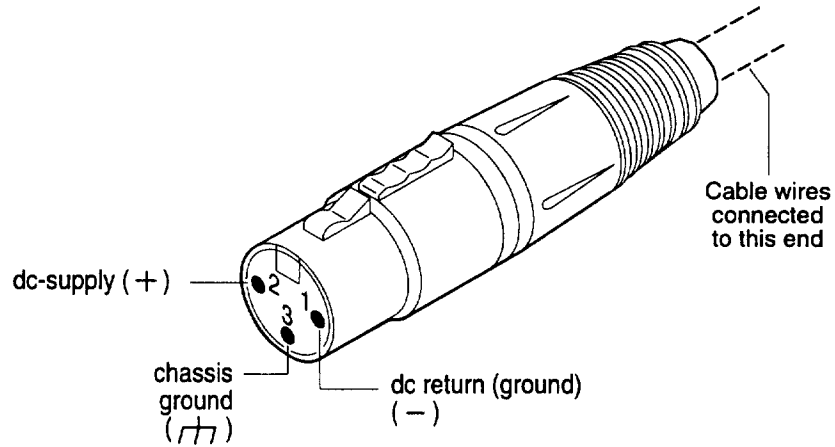

Figure 4-2E. Three-Pin XLR Plug Pinouts (Front View)
- 13 Note that you will have to assemble your own dc power cable using 18 AWG connecting wires and a three-pin XLR (female) connector plug (shown in Figure 4-2E).